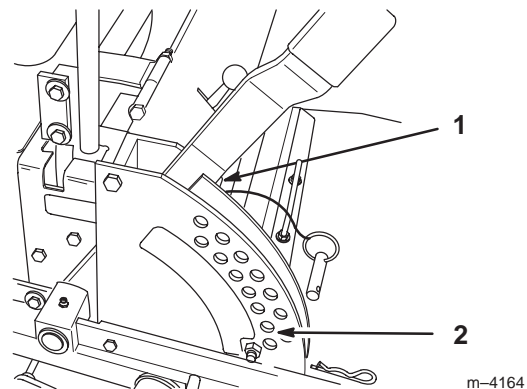

Figure 63
- Check tire pressure of all four (4) tires. If needed, adjust to 13 psi (90 kPa)
- Raise the deck to the transport position and take all force off of the two large deck lift springs by loosening nut in front of each spring (Fig. 63).
- Place two 1-1/2" (38 mm) thick blocks under rear left and right lower edge of mower. Place one 2-1/4" (57 mm) block under front center lower edge of mower. Lower mower to the 2" (51 mm) height-of-cut position (Fig. 63).
1. Raise deck lift lever to the transport position, (Fig. 63).